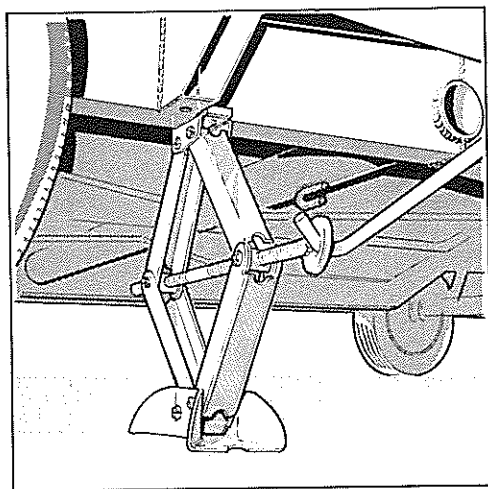

Figure 37 Jacking position – front
- 1 Jack up the vehicle until one front wheel is clear of the ground. **(Figure 37)**
The front wheel can be raised by positioning the jack at the front end of either main longitudinal chassis member, adjacent to the front outrigger. (Figure 37).